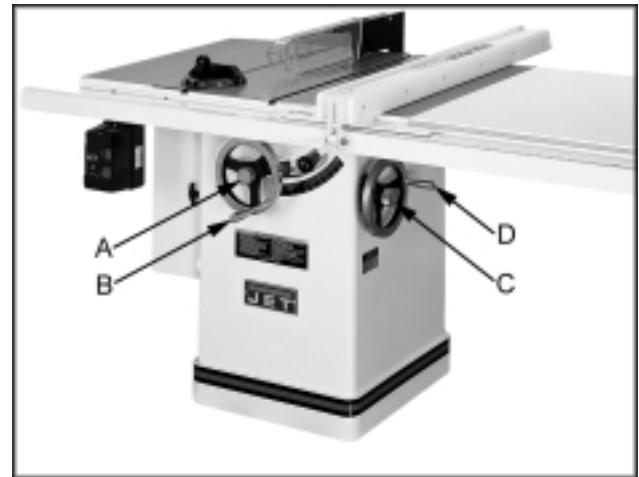

Fig. 12
1. To raise or lower the saw blade, loosen the lock knob (A, Fig. 12) in the middle of the handwheel and turn the handwheel (B, Fig. 12) on the saw front until desired height is reached. Tighten lock knob. The blade should be adjusted 1/8" to 1/4" above the top surface of the material being cut.
2. To tilt the saw blade, loosen lock knob (C, Fig. 12), turn handwheel on the right of the saw cabinet (D, Fig. 12) until desired angle is obtained, then tighten lock knob.